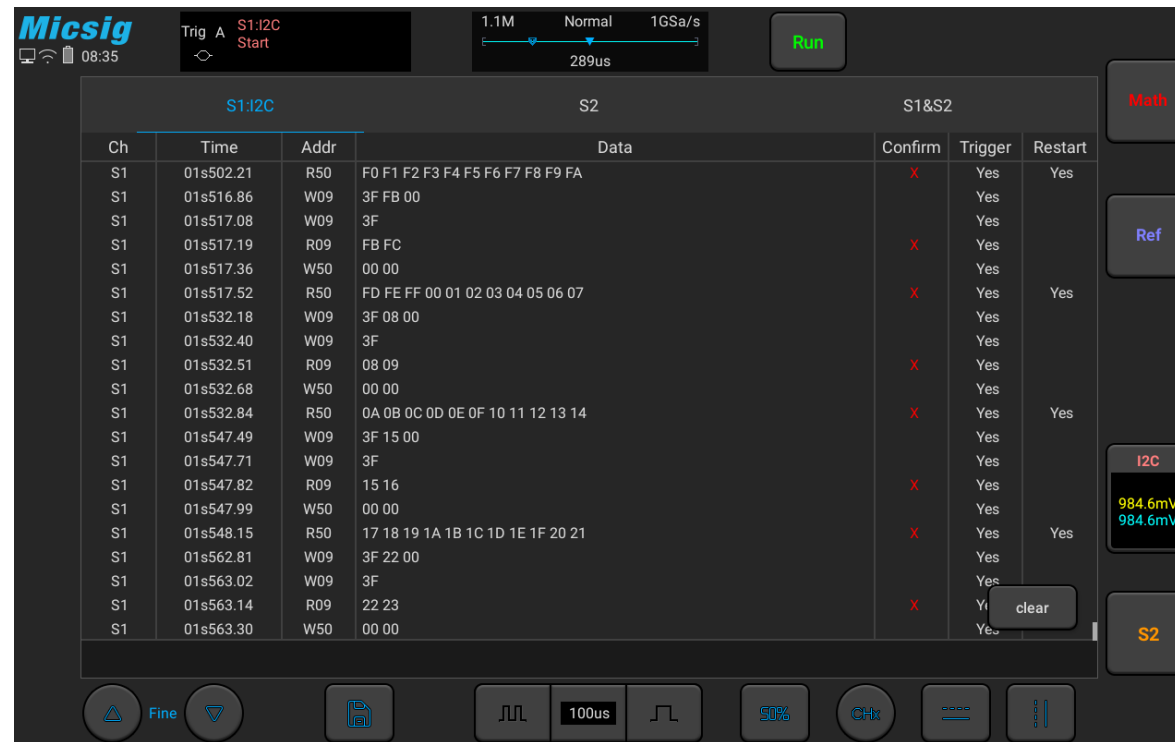

Figure 11-25 I2C Text Interface
**I2C text interface description, as shown in Figure 11-25:**
- (1) “Ch”: bus channel.
- (2) “Time”: intervals between the last read/write operations to current read/write operations
- (3) “Address”: in address bar, “R” means the read operation, and “W” means write operation
- (4) “Data”: data sent by one read and write operation is in the data bar.
- (5) “Ack”: in Ack bar, “X” means Ack bit lost.
- (6) “Trigger”: “Yes” means reach trigger condition.
- (7) “Restart”: “Yes” means reach restart condition.